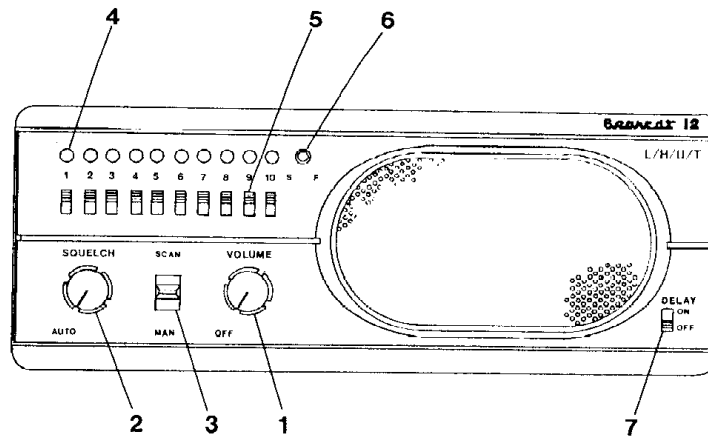

Figure 1
5. Turn the unit ON by turning the VOLUME (1) (Fig. 1) control clockwise approximately 1/3 of its rotation.
6. Place the 10 channel switches (5) (Fig. 1) in the up (ON) position.
7. Set the "MANUAL-SCAN" switch (3) (Fig. 1) on "MANUAL" (Center Position).
8. Adjust the "Squelch" control (2) (Fig. 1) clockwise until you hear background noise; then turn it back counter clockwise until the noise disappears. For automatic operation, rotate squelch control fully counter-clockwise until a "click" is heard. The squelch system is now set to a predetermined sensitivity level.
9. Press the MANUAL-SCAN switch (3) (Fig. 1) downward and step the indicator light through each channel. If you hear any background noise on any channel, adjust the squelch control counterclockwise again slightly until the noise disappears. The MANUAL-SCAN switch may now be used to select and monitor any desired channel.
10. To sample all channels automatically, return the MANUAL-SCAN switch up to the SCAN position. Any channel may be omitted as desired by moving the individual channel switch (5) (Fig. 1) downward (Off). If an outside antenna is necessary for fringe reception, you may use a 450MHz or a 155MHz antenna, a 40MHz antenna or a two-band antenna depending on brands desired. External antennas should be coupled to the receiver by 50 ohm coaxial cable, such as RG-58 A/U, using the supplied automotive type connector. Suitable antennas are available at most radio dealers.